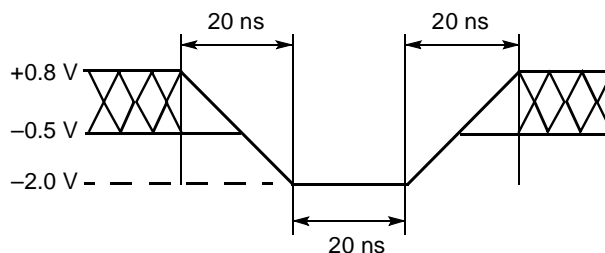
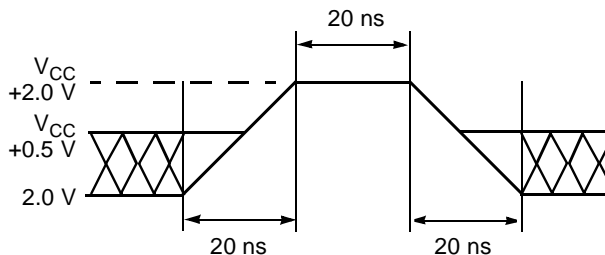

Figure 9. Maximum Negative Overshoot Waveform
Figure 10. Maximum Positive Overshoot Waveform
1. Minimum DC voltage on input and I/O pins is -0.5 V . During voltage transitions, input and I/O pins may overshoot V_{SS} to -2.0 V for periods of up to 20 ns. See Figure 9. Maximum DC voltage on output and I/Os is $V_{CC} + 0.5\text{ V}$. During voltage transitions input and I/Os may overshoot to $V_{CC} + 2.0\text{ V}$ for periods up to 20 ns. See Figure 10.
2. Minimum DC input voltage on pins A9, OE#, and RESET# is -0.5 V . During voltage transitions, A9, OE#, and RESET# may overshoot V_{SS} to -2.0 V for periods of up to 20 ns. See Figure 9. Maximum DC input voltage on pin A9 and OE# is $+13.0\text{ V}$ which may overshoot to 14.0 V for periods up to 20 ns.